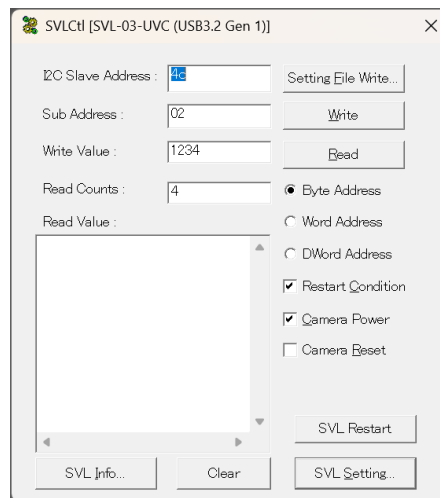

Figure 9 Application Screen
【図 9】 SVL Info(MIPI) 画面
2. The application starts as shown in Figure 9.